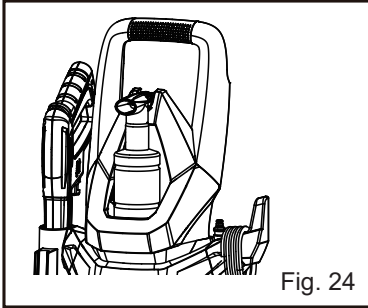

Fig. 24
- The detergent bottle can be put on the handle area for easy storage (Fig. 24).